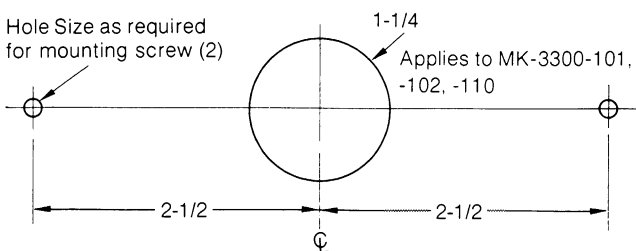

Figure 6.
To mount proceed as follows. Refer to Figures 6 and 8.
1. Drill holes in mounting surface as shown in Figure 6.